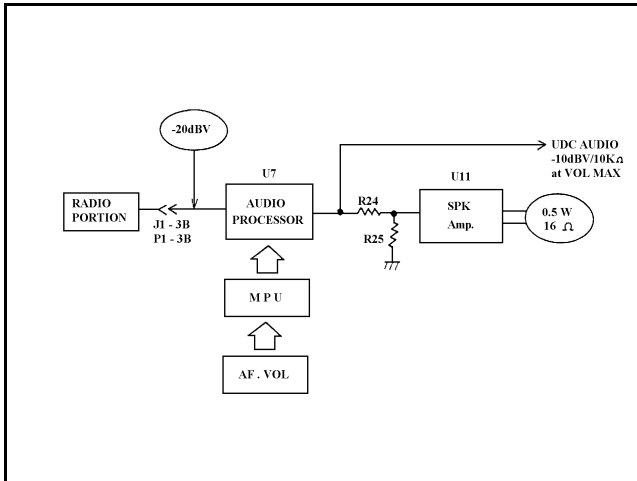

Figure 10 - Receive Audio Output
- b. Control Board: The receive RF signal comes into P1, Pin 3B. The signal is then applied through a 14 dB amplifier, 300-3000Hz BPF, De-emphasis and a 44 dB volume level control. The signal is then amplified by SPK amplifier U11 to drive the speaker. Typical levels needed to obtain a 1 kHz, 0.5 watt receive rated audio output are shown in Figure 10.